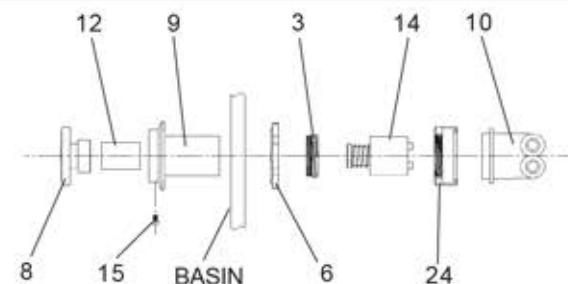

FIG. 7
7. Check stream height from bubbler. Stream height is factory set at 45-50 PSI. If supply pressure varies greatly from this, adjust the screw on regulator (item 14) by using a small screwdriver through the small hole in the push button (item 8)(See Figure 7, Page 4). Clockwise adjustment will raise stream height and counter-clockwise adjustment will lower stream height. For best adjustment stream height should be approximately 1" (25mm) above the bubbler guard.